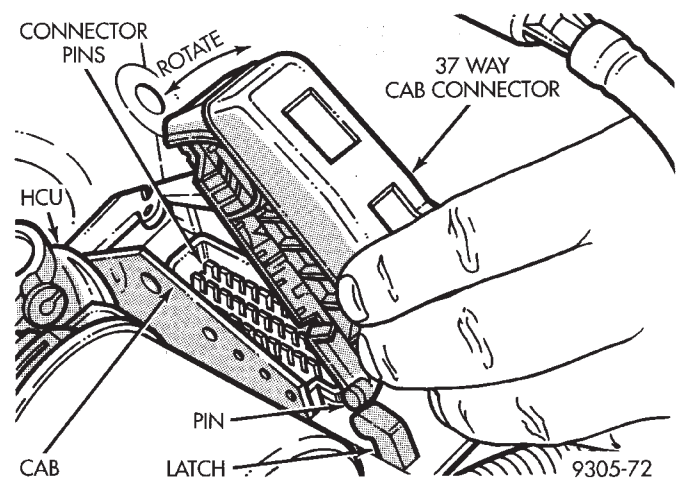

Fig. 4 (CAB) Connector Removal From (CAB)
(5) Grasp connector and rotate rear of connector up until it clears connector pins on (CAB) (Fig. 4). Then remove (CAB) connector pin from latch on (CAB) (Fig. 4), and position connector out of the way.